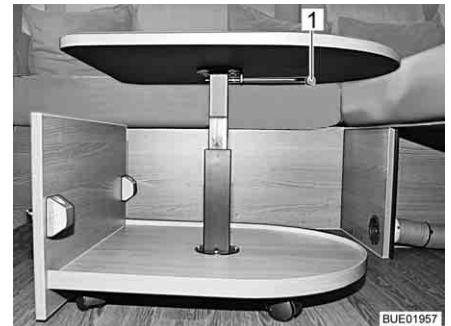

Fig. 115 Coffee table, extended
- Turn the catch lever (Fig. 115,1) 90° downwards.